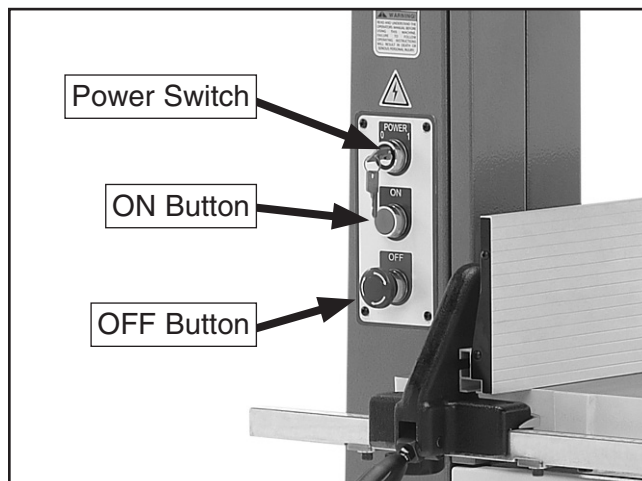

Figure 43. G0513X2BF control panel.
4. Insert key into Master Power Key Switch, then rotate switch to "1" position (see **Figure 43**). This turns incoming power **ON**.
5. Twist OFF button clockwise until it springs out (see **Figure 43**). This resets switch so machine can start.
6. Press ON button (see **Figure 43**) to turn machine **ON**. Verify motor starts up and runs smoothly without any unusual problems or noises.